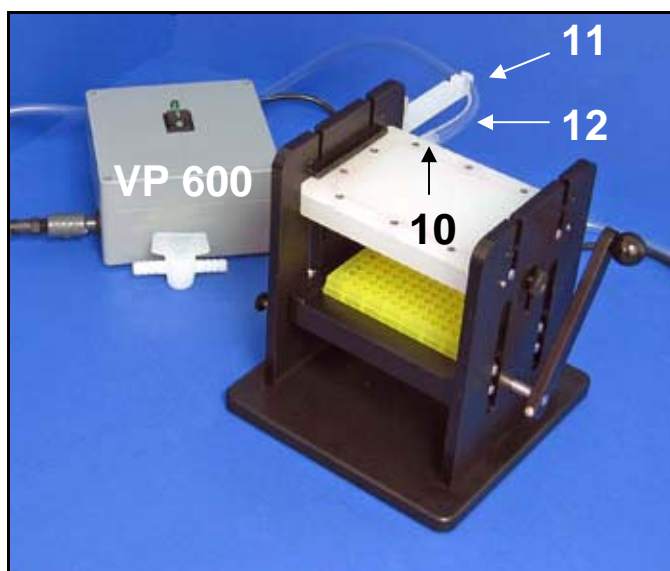

Figure 6: VP 600 Push Button In-Line Shut-Off Valve.
2. Connect the vacuum trap to an in-line shut-off valve such as stop cock valve or a VP 600 Push Button (both are shown in Figure 6). The V&P 600 provides the ease of turning off and on with the push of a button or by computer/robot. The stopcock valve requires two hands to operate.